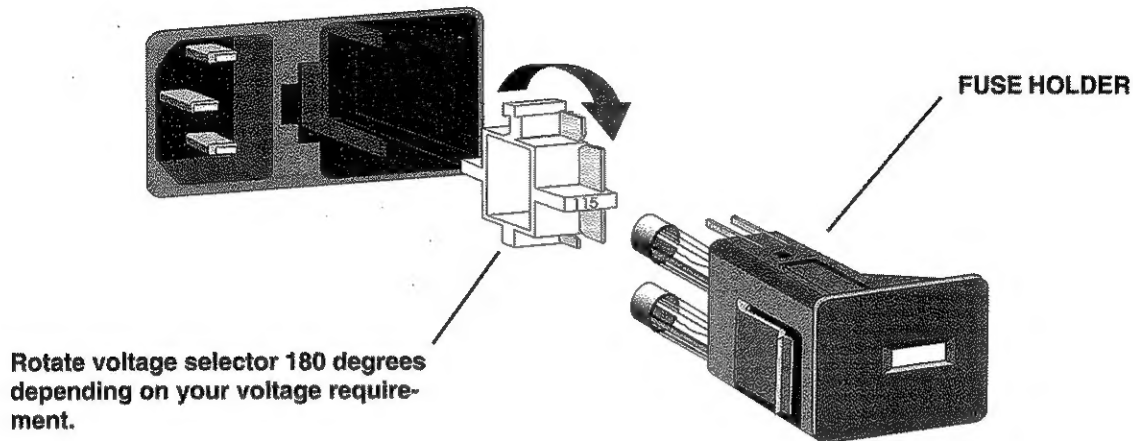

FIGURE 2:
7. Rotate the voltage selector 1/2 turn, and reinsert it securely into the carrier (see FIGURE 2). When correctly inserted, the metal contacts will be located towards the center of the analyzer, furthest from the power input receptacle.